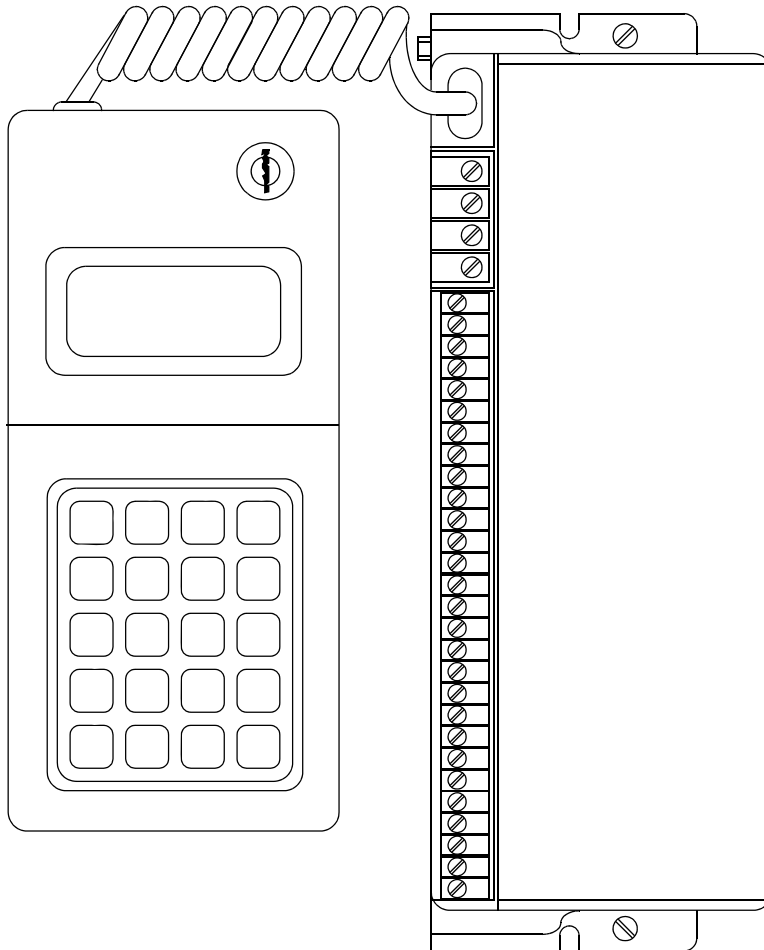

Figure 106. Attaching HHM to a Block for Off-Line Configuration
1. Attach the HHM to the block. See Figure 106.